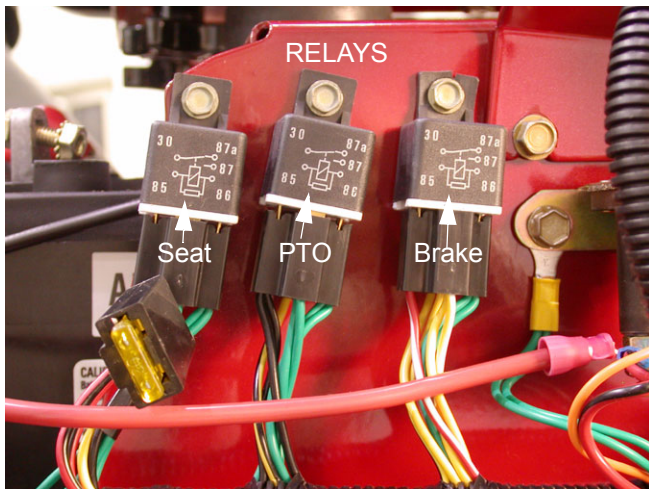

Figure 18.8
18.8. There are three RELAYS in the electrical system of the RZT. They are located under the right side console toward the rear. See Figure 18.8.